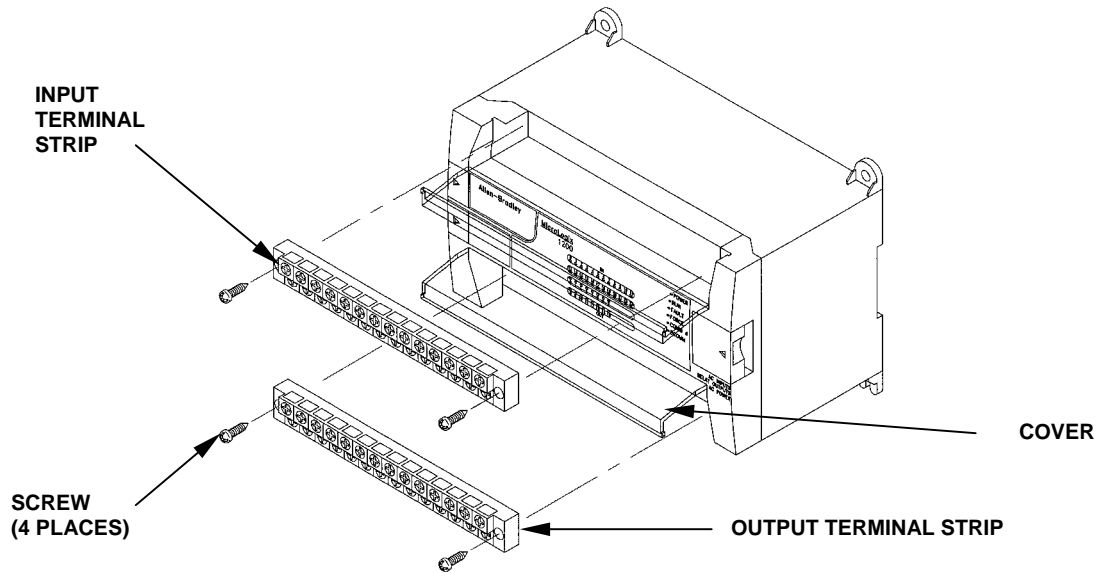

Figure 5. Programmable Logic Controller.
1. Open plastic covers over input and output terminal strips. See Figure 5.